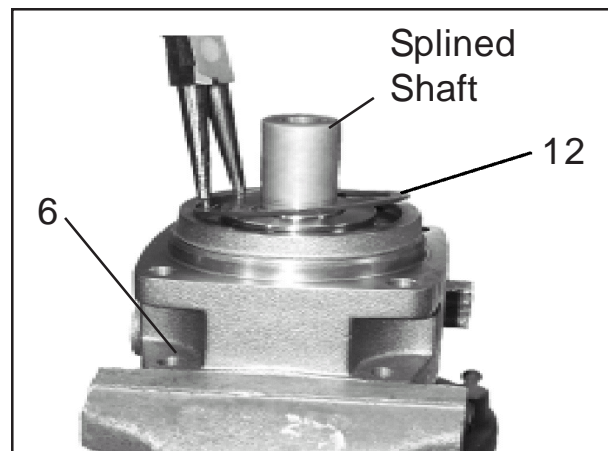

Figure 8
7. Remove Retaining Snap Ring. Remove the Bearing Housing Assembly from vise and turn it over so the shaft end is pointing upward and re-clamp it into vise as shown in figure 8. Using internal Snap Ring pliers to remove the snap ring that retains the seal carrier (item 9). Note: Smooth Shaft shown, actual shaft is splined in this motor.